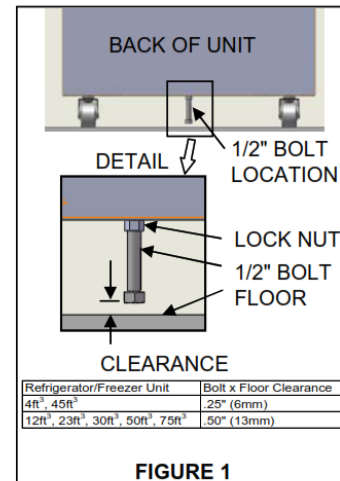

FIGURE 1
- b. Unscrew 1/2" bolt until there is the required clearance between floor and head of bolt as shown in Figure 1